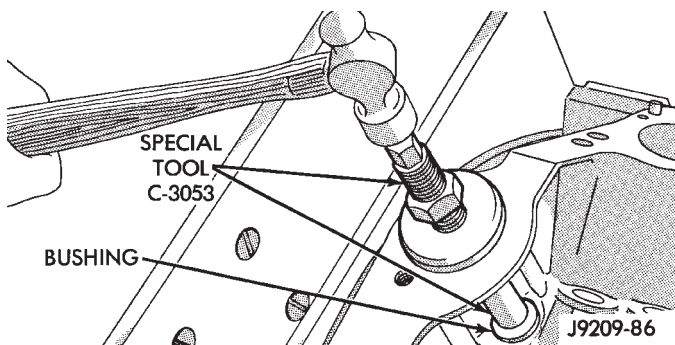

Fig. 35 Distributor Driveshaft Bushing Installation
(1) Slide new bushing over burnishing end of Distributor Drive Shaft Bushing Driver/Burnisher Tool C-3053. Insert the tool and bushing into the bore.
(2) Drive bushing and tool into position, using a hammer (Fig. 35).